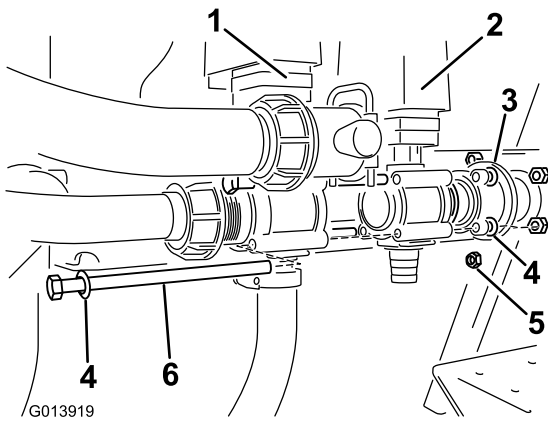

Figure 5
7. Locate the eductor valve in loose parts, and install the valve in line, to the right of the agitation valve (Figure 5).